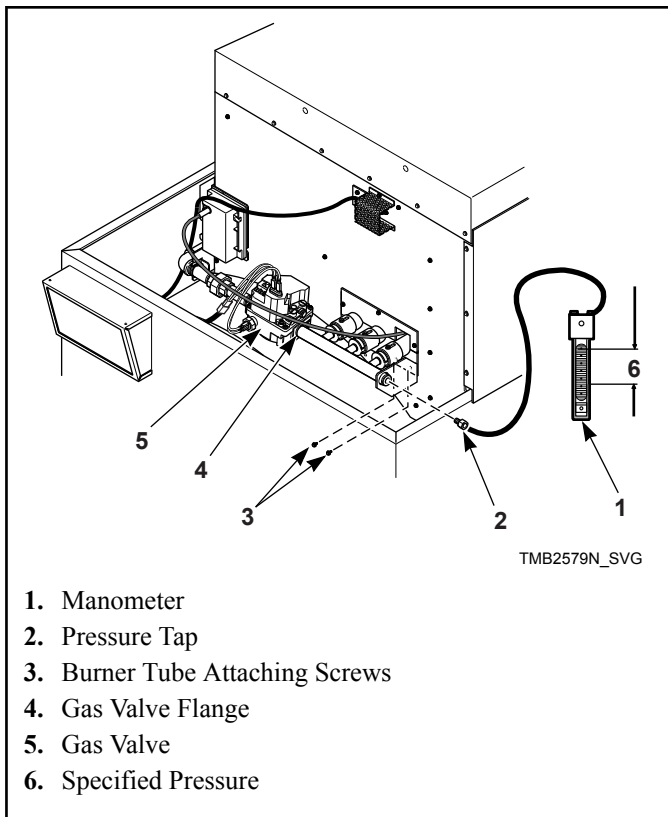

Figure 8
burner orifice pressure per applicable table is achieved. Replace regulator cap. Refer to *Figure 8*.
1. Check gas burner orifice (manifold) pressure as follows. Refer to *Figure 8*.